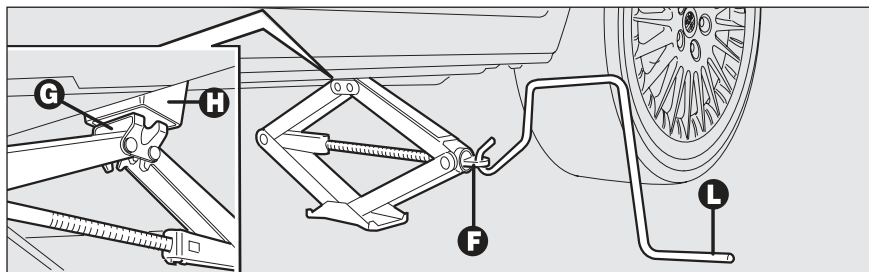

fig. 8
- ☐ Operate the device **F-fig. 8** to extend the jack until the top of the jack **G** fits correctly into catch **H**;
- ☐ Fit the handle **L-fig. 8** to operate the jack and lift the car until the wheel to be changed is several centimetres off the ground;